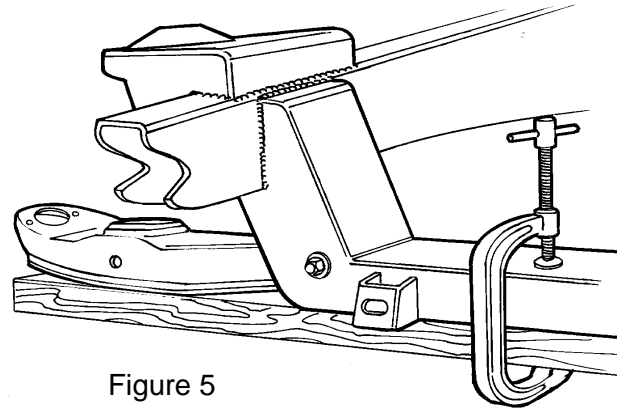

Figure 5
9. Next are the spring towers. They sit on top of the frame rails, and are located as shown in Figure 5, 1-9/16" forward of the crossmember measuring from the front of the crossmember to the front of the spring tower. Clamp in place, double check your dimensions, then weld all around, including the flanges down the sides of the rails. For added strength, you can also weld the inside of the flanges.
10. If you are using factory lower control arms and strut rods you will continue here. Use the lower control arm and strut rod for locating the rear strut rod supports and gussets. Using a 2 x 4 and a C-clamp, install the control arm as shown in Figure 5.